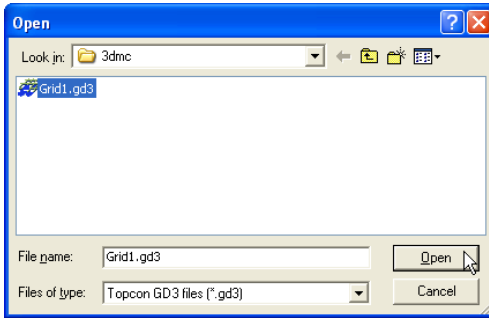

Figure 8-1. Open 3D Grid File
2. On the *Open* dialog box, navigate to the location of the desired file, select it, and click **Open** (Figure 8-1 on page 8-2). The information from the selected file is added to the 3D Project file.